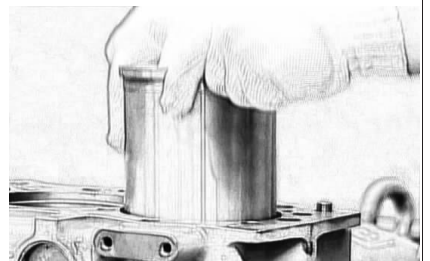

Fig 5-7 Wet Sleeves Installation
1.7 Coat some oil on O-rings. Push sleeves into cylinder block by hands. If it is too hard, may use woodblock on sleeves, knock woodblock to let sleeves into its position on block. The head face of the sleeves should be 0.05-0.12mm tall above cylinder plane (see Fig 5-7)